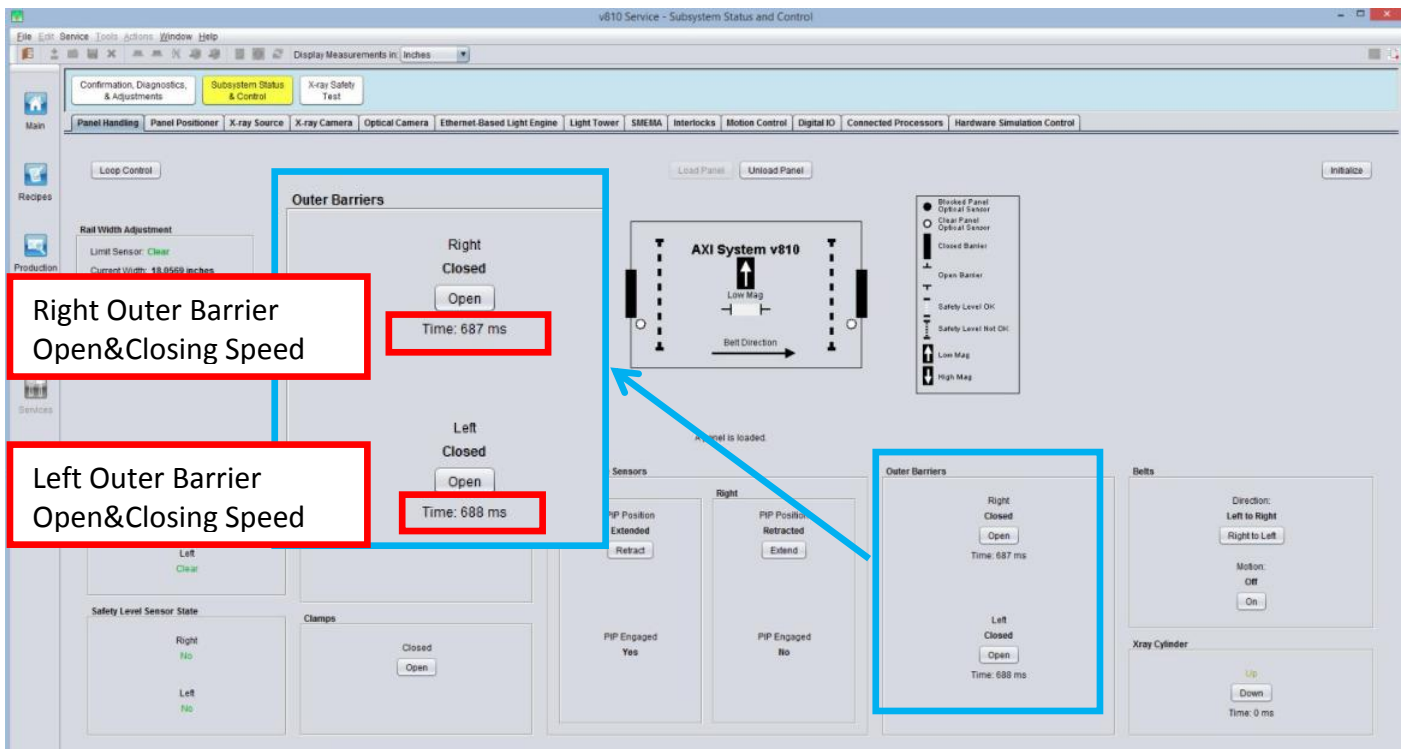

Figure 12
21. Open & Close particular Outer barrier which perform Valve Replacement. Record down Opening & Closing duration as below Figure 12.